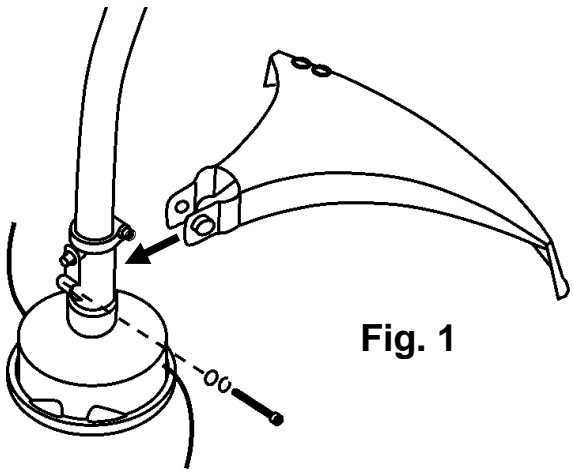

Fig. 1
- Mount the guard from the side by inserting the guard around the guard mount (Fig 1). Secure with screw, flat washer and spring washer supplied.